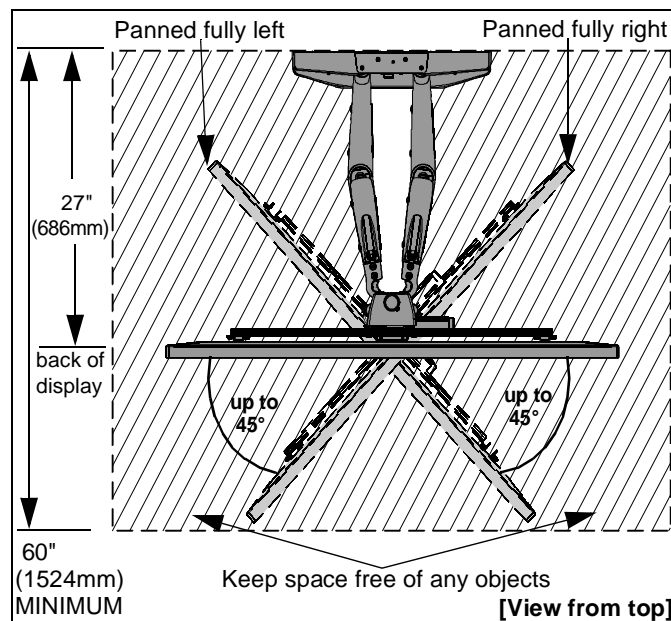

Figure 1
2. Ensure that an area from the point of PXR wall attachment outward and surrounding the PXR is left open and doesn't contain anything that may impede movement of the PXR. (See Figure 1)